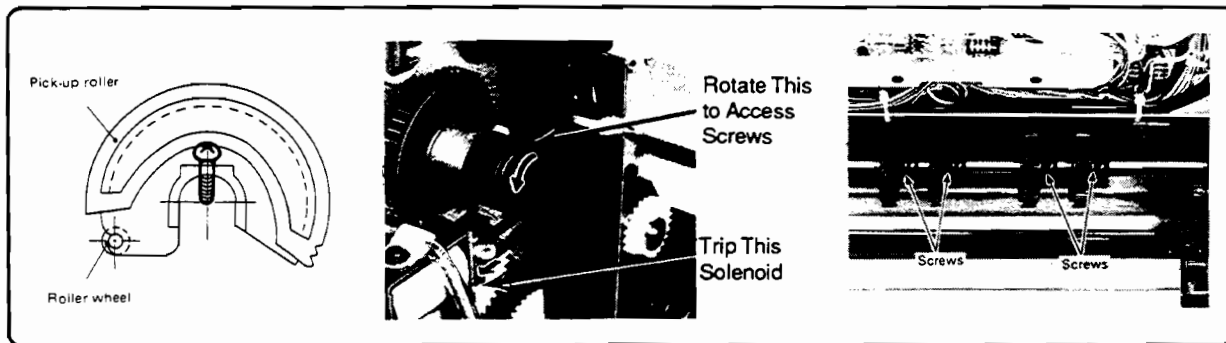

Figure 6-103. Cassette Pick-up Rollers
6. Manually trip the solenoid (SL) of the upper/lower pick-up roller clutch (see Figure 6-103).
7. Turn the roller shaft by hand until the mounting screws securing the rollers face the opening of the cassette holder (see Figure 6-103).